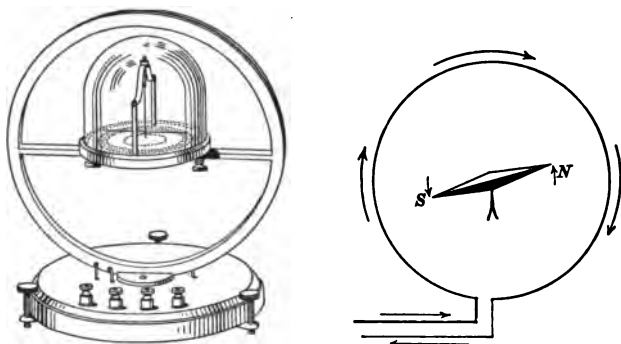

FIG. 244. — Moving-magnet galvanometer and diagram of essential parts.
**274. Galvanometers.**—We can get an idea of the *relative* strength of two currents by means of a galvanometer. There are two kinds of galvanometers in common use, the older of which is the **moving-magnet** galvanometer (Fig. 244). This consists of a compass needle pivoted or hung at the center of a large wooden frame on which are wound one or more turns of wire. This coil is set facing east and west so that the compass needle lies parallel to its plane. When a current is sent through the wire, an east and west magnetic field is set up at the center of the coil and the compass is deflected more or less according as the current is stronger or weaker.